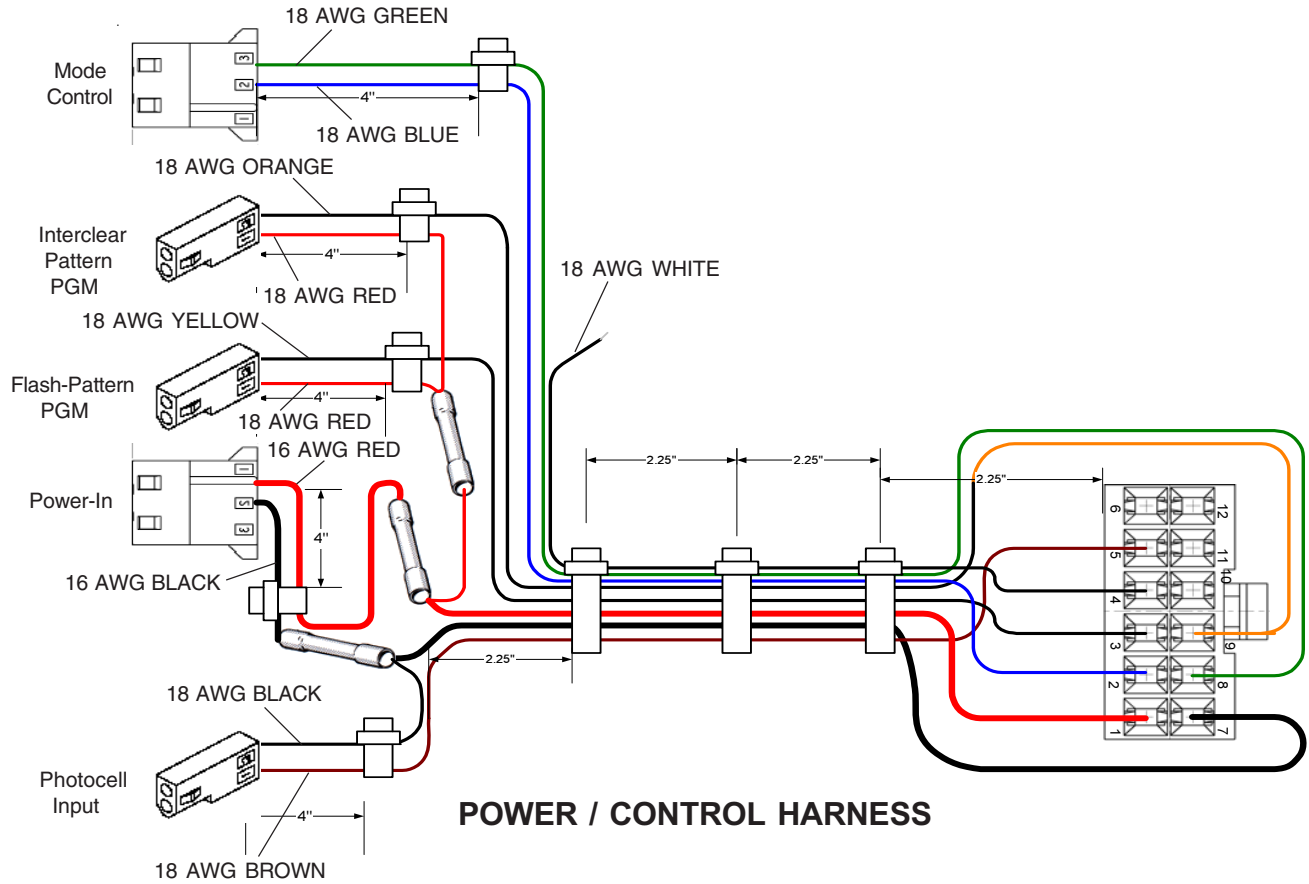

Figure5
8. **(Refer to Figure 5)** Plug the Power / Control Harness into the Flasher. Connect the Red and Black wires of the Power-In connector to +12V and ground terminals respectively. Insure that the Red power wire is fused with a 15 Amp AUTO style fuse. Connect the Flash-Pattern program and the Interclear-pattern program connectors to two momentary pushbutton switches, these switches can be used to program the desired flash-pattern for regular operation and Interclear® operation modes respectively. Also, if the Active-High Interclear option is desired, connect the white wire to the Interclear Output on the siren(if applicable). Connect the Green and Blue wires of the Mode Control Connector to +12V through two user supplied SPST switches. These switches could be used to activate the Group B and Group A outputs respectively.